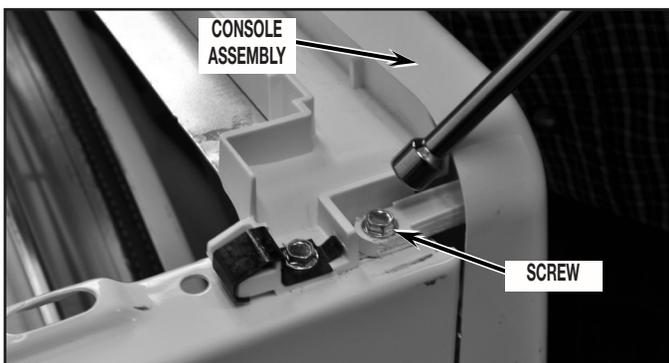

FIGURE 3
7. Remove console by first removing two (2) screws (one from each side of console assembly) at location as shown in *Figure 3*.